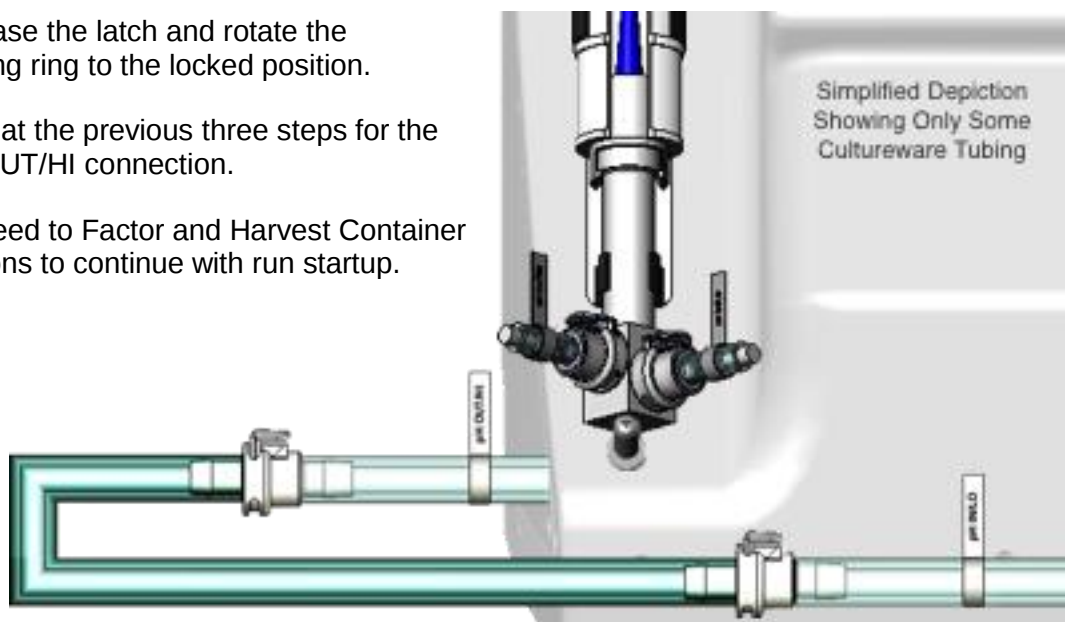

Figure 8-20: Cultureware's External Tubing: pH IN/LO and pH OUT/HI
9. The pH probe assembly will replace the cultureware's tubing adapter between its quick-coupler fittings labeled pH IN/LO and pH OUT/HI. The adapter is colored dark-green for clarity in figure 8-20. The pH IN/LO tubing emerges from the lower-right front edge of the cultureware enclosure. The pH OUT/HI tubing enters the lower-left-hand side of the cultureware enclosure.